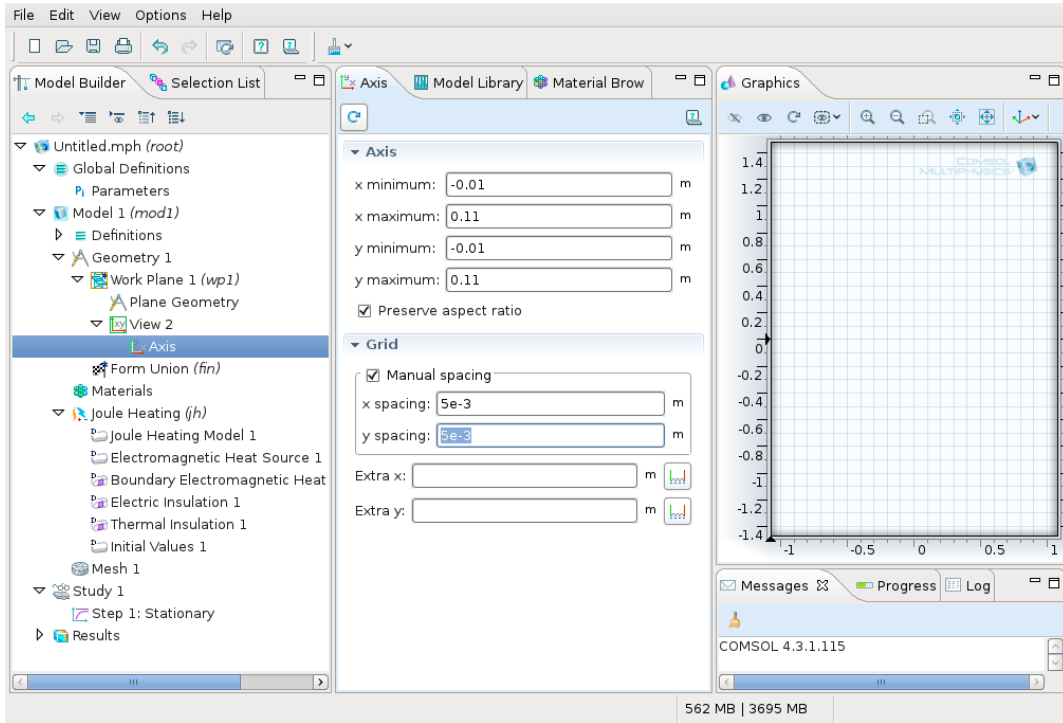

Figure 8: Axes parameters.
**Model Builder → View 2 → Axis** (Fig. 8):